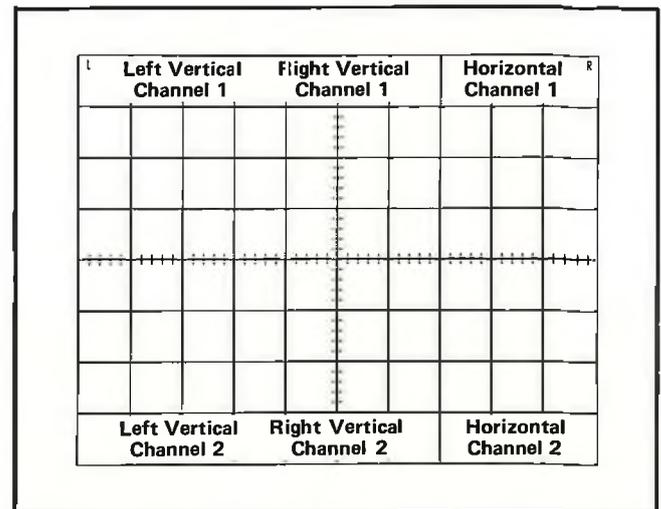

Fig. 3-30. Location of readout words on the CRT identifying the originating plug-in and channel (one complete frame shown, simulated readout).
Frame—A frame is a display of all words for a given operating mode and plug-in combination. Up to six words can be displayed in one frame. Fig. 3-30 shows one complete frame (simulated readout) and the position at which each of the six words is displayed.
Display Format. Up to six words of readout information can be displayed on the 7503 CRT. The position of each word is fixed and is directly related to the plug-in unit from which it originated. Fig. 3-30 shows the area of the graticule where the readout from each plug-in unit is displayed. Notice that channel 1 of each plug-in unit is displayed within the top division of the CRT and channel 2 is displayed directly below within the bottom division. Fig. 3-32 shows a typical display where only channel 1 of the Right Vertical and both channels of the Horizontal unit are selected for display.
The Format Generator stage provides the output signals to the vertical and horizontal deflection systems of the instrument to produce the character display. The binary Channel Address Code from the Channel Counter stage is connected to this stage so that the display from each channel is positioned to the area of the CRT which is associated with the plug-in and channel originating the word (see Fig. 3-30). The positioning current or decimal point location current generated by the Decimal Point Logic and Character Position Counter stage is added to the horizontal (X) signal at the input to the Format Generator stage to provide horizontal positioning of the characters within each word. The X- and Y-output signals are connected to the Horizontal Amplifier and Vertical Amplifier through the Horizontal Output and Vertical Output Stages respectively.